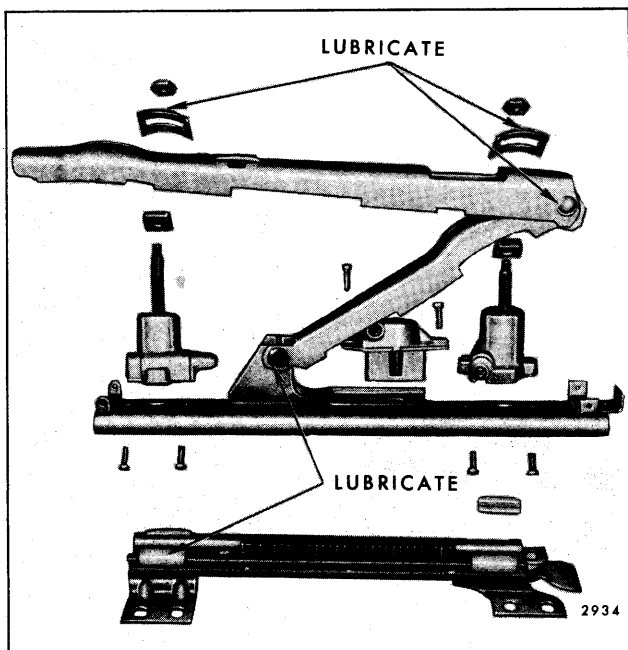

Fig. 2-12—Front Seat Adjuster Mechanism
2. Apply a thin coat of white lithium soap grease (Lubriplate 630 AAW or equivalent) to the pivot pins, upper surface of the gearnut tension springs and upper channel track nylon bushings as illustrated (Fig. 2-12).